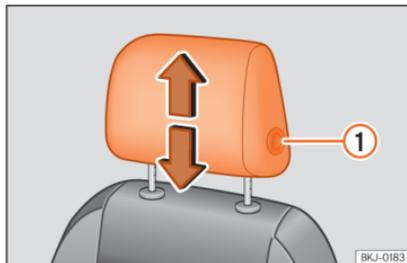
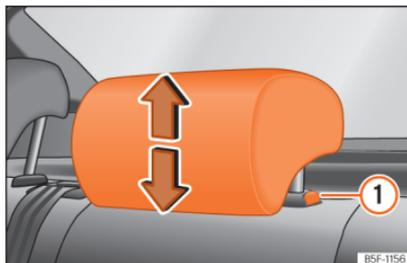

Fig. 104 Front seat: headrest adjustment.
Fig. 105 Rear headrest: headrest adjustment. »
- Move the headrest up or down in the direction of the corresponding arrow. Regarding the rear headrest, to both raise and lower, press the button »» Fig. 104 ①; for the rear headrests it is only necessary to press the button »» Fig. 105 ① to lower them »» ⚠ in Introduction on page 125.
- Press the side button »» Fig. 104 ① and remove the headrest.